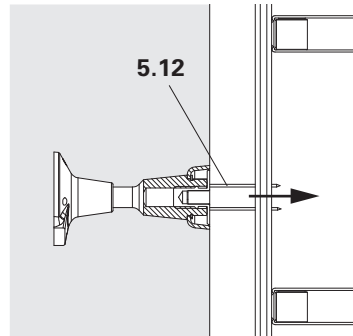

Fig. B1.13
- When retracting the formwork, nails (5.12) must be pulled through the plywood. (Fig. B1.13)